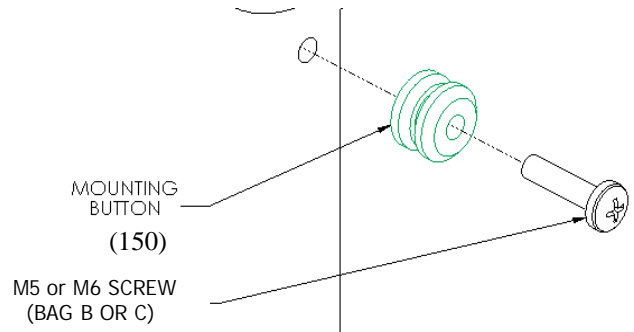
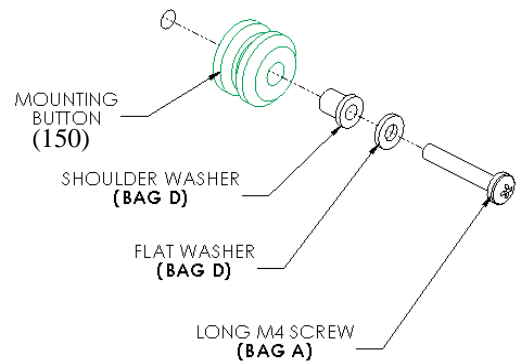
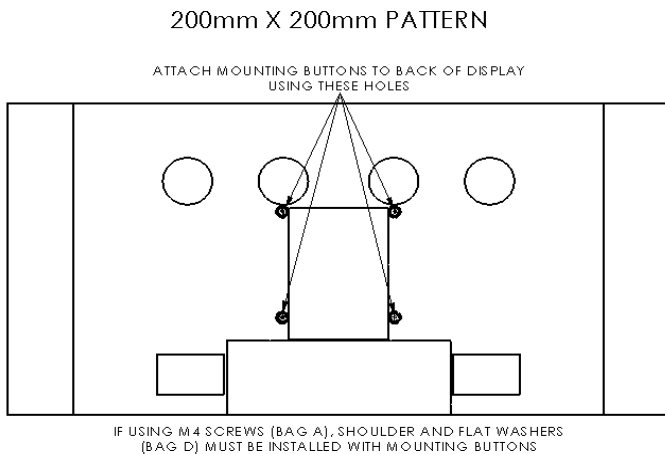

Figure 10. Attach Mounting Buttons to Display Using M5 or M6 Screws
Figure 11. Attach Mounting Buttons to Display Using Shoulder Washers, Flat Washers, and M4 Screws
Figure 9. Display with 200mm x 200mm Hole Pattern
1. Select the appropriate method, listed below, to attach the four mounting buttons (see Figure 9) to the back of your display:
- As shown in Figure 9 and Figure 10, use four M5 or M6 screws (Bag B or C) to attach the four mounting buttons (150) to your display.
- As shown in Figure 9 and Figure 11, use four shoulder washers (Bag D), four flat washers (Bag D), and four M4 screws (Bag A) to attach the four mounting buttons (150) to your display.